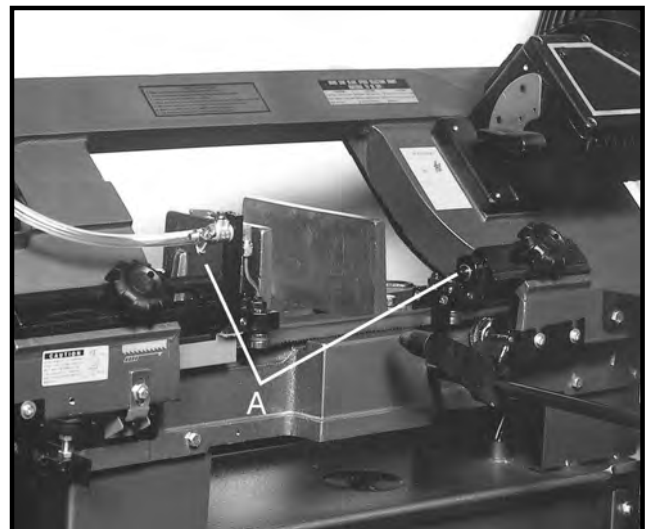

Fig. 11
2. Place machinist's square on table next to blade as pictured in Fig. 11.
4. If adjustment is necessary, loosen bolts (A, Fig. 11) and rotate blade guide assemblies slightly in the same direction until blade makes contact with the square along its entire width.
5. Tighten bolts (A).